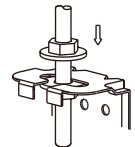

Fig.5-7
- Locate the fan coil unit firmly by wrenching the nuts after having adjusted the body's position well. (refer to fig.5-7)